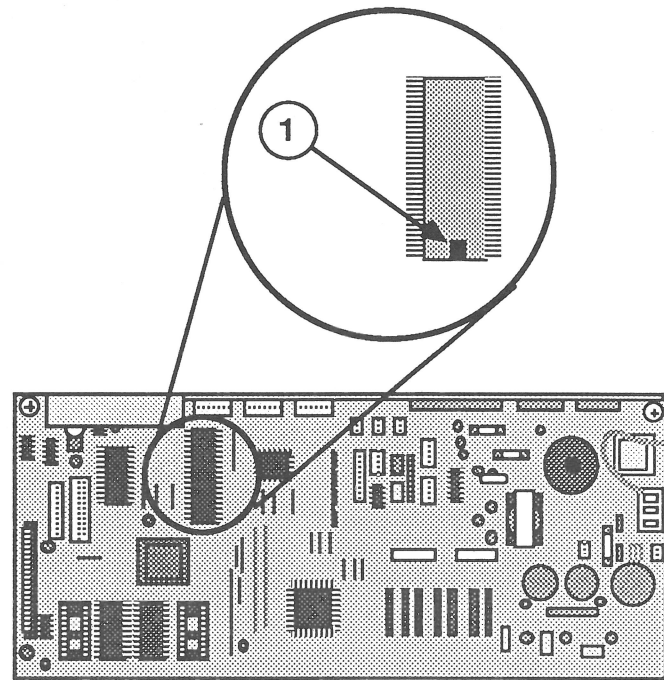

FIGURE 3
2. Position the new ROM so the notch faces the front of the printer and the legs are lined up with the socket (Figure 3, #1). Gently push the new ROM into the socket.